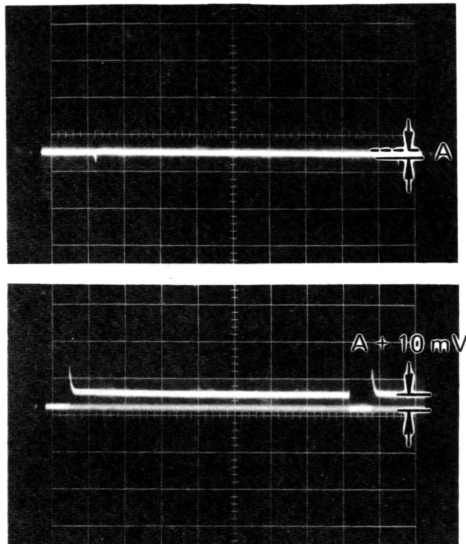

Fig. 4-16
1. Connect oscilloscope to IC6 pin 14. Turn R23 Y. L. SETUP fully counter-clockwise to the off position and read the value at this time (AmV in Fig. 4-16).